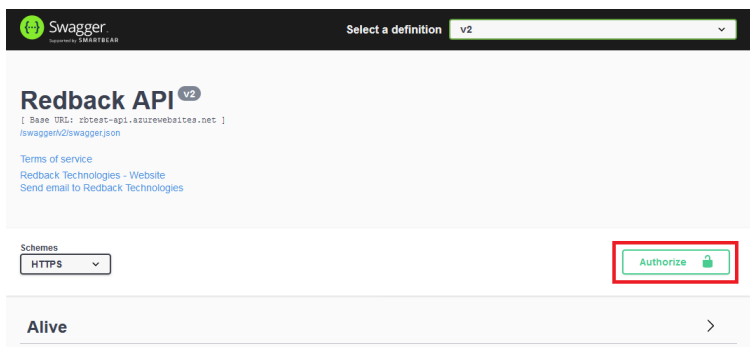

Figure 1 Authentication and Authorisation using Swagger
1. Clicking the Authorise button as shown in Figure 1 Authentication and Authorisation using Swagger